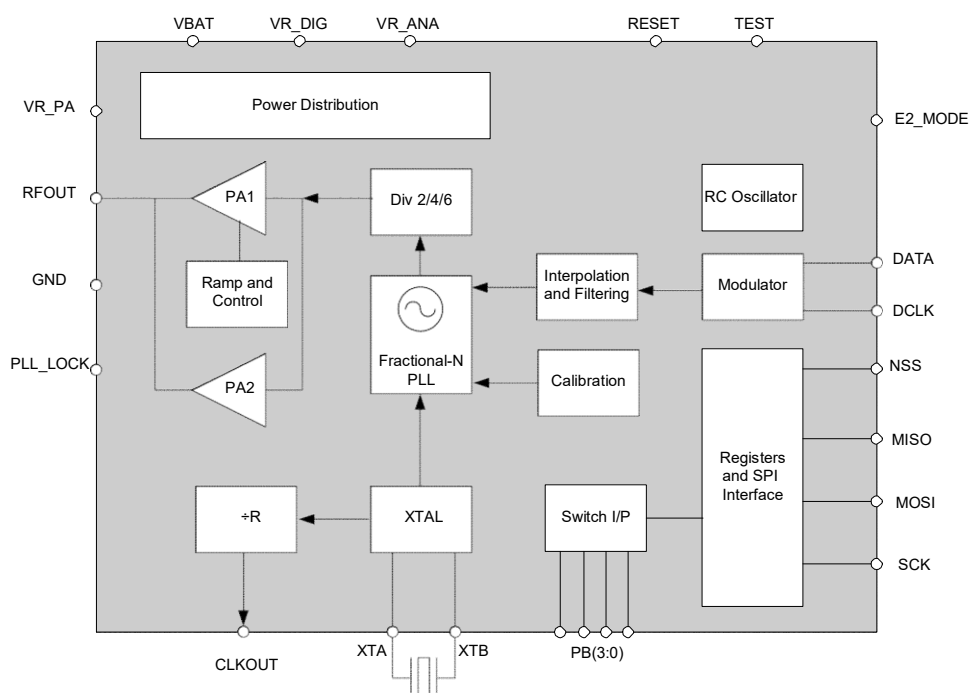

Figure 1. HC1230 Simplified Block Diagram
The general architecture of the HC1230 is shown in Figure 1. The frequency synthesizer generating the LO frequency is a third-order fractional-N sigma-delta PLL. The PLL is capable of fast auto-calibration and offers fast switching and settling times. For frequency modulation ((G)FSK and (G)MSK), the modulation is performed within the PLL bandwidth. Optional pre-filtering of the bit stream may also be enabled to reduce the power delivered to adjacent channels.